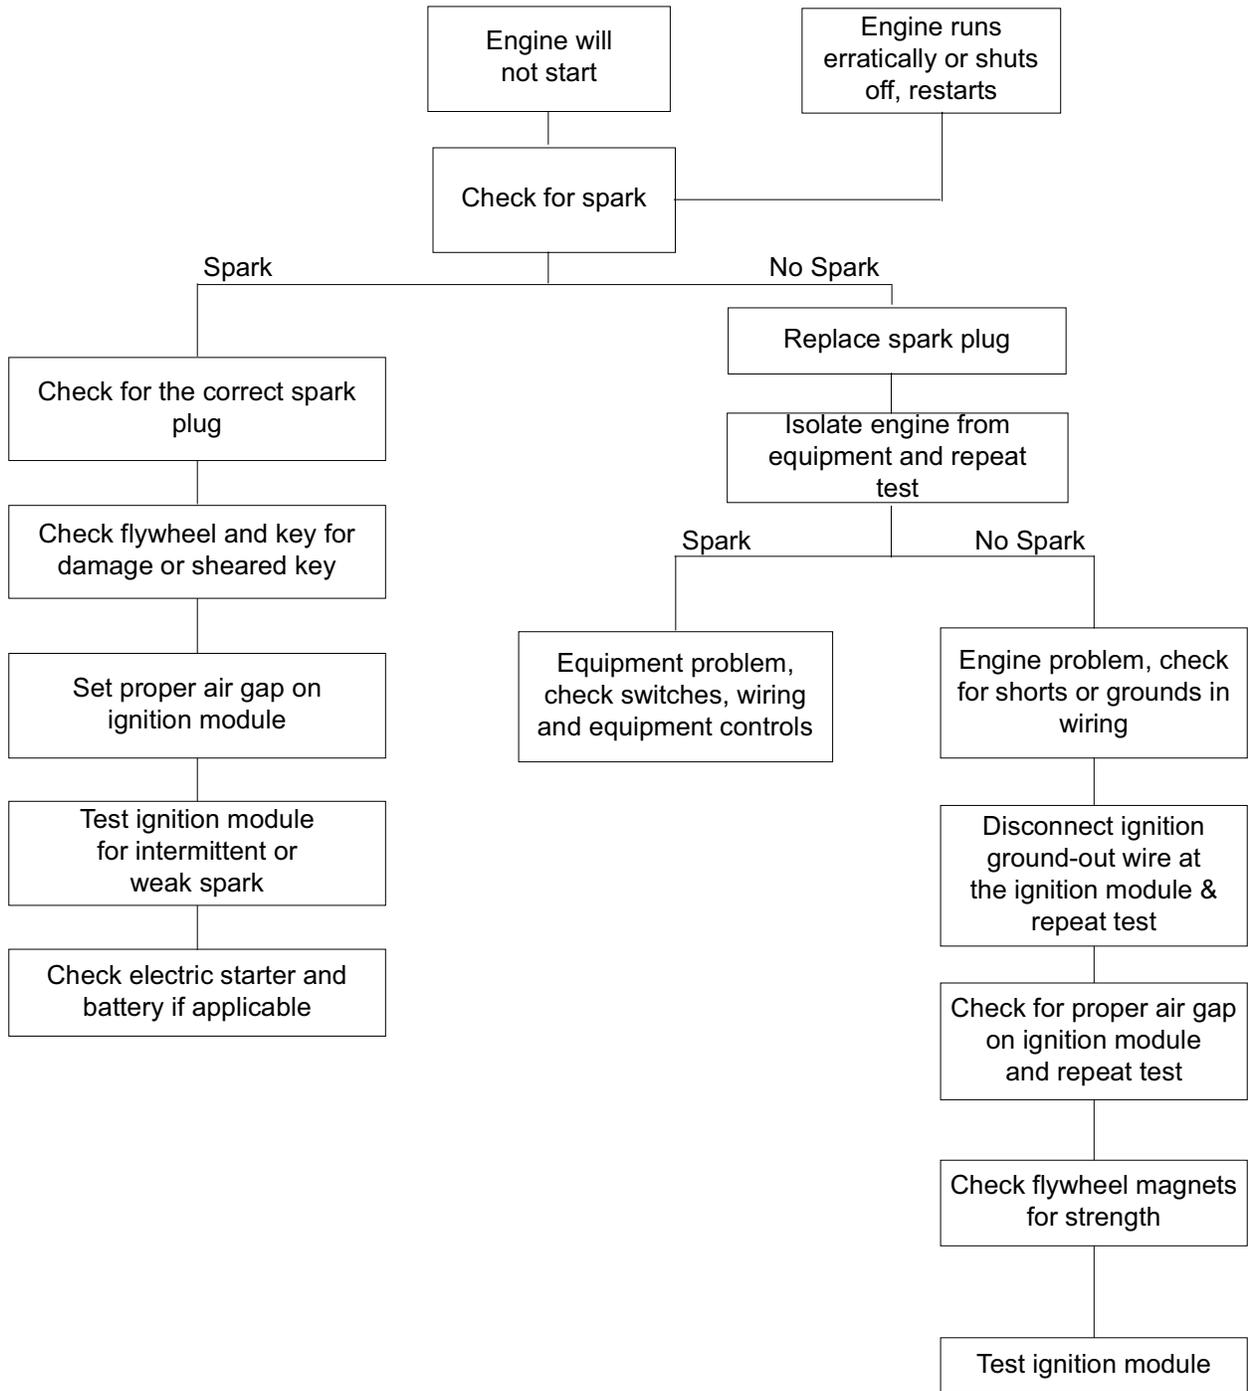

**Figure 2.4**
**NOTE:** On snow blower engines the breather hose connects to a chamber inside the lower half of the heat box assembly. See Figure 2.4.